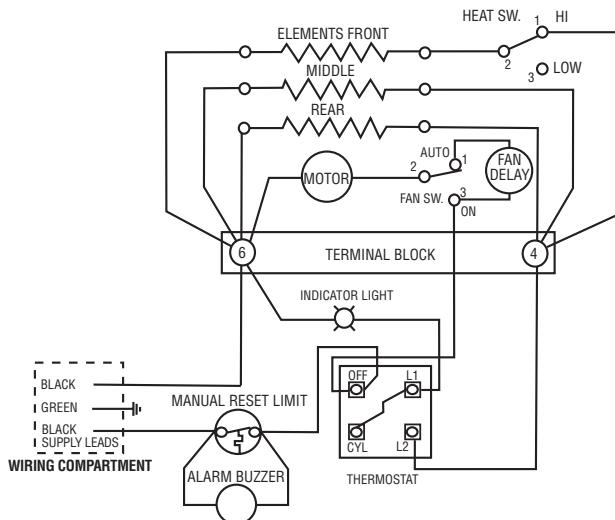

Figure 5 - Wiring Diagram
- Connect the field wiring to the heater wiring as shown in Figure 5 - Wiring Diagram.